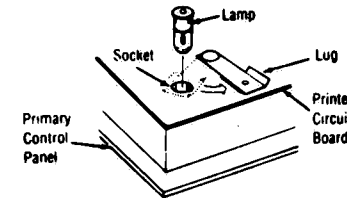

Figure 7-15. LAMP REPLACEMENT.
a. The light bulbs are removed by moving the retainer aside and lifting out the bulb. See Figure 7-15.